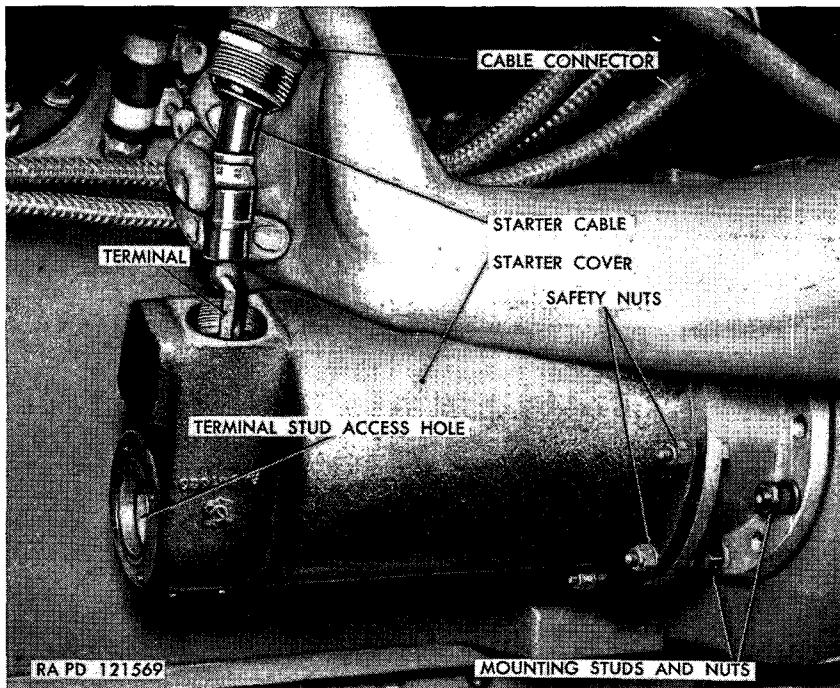
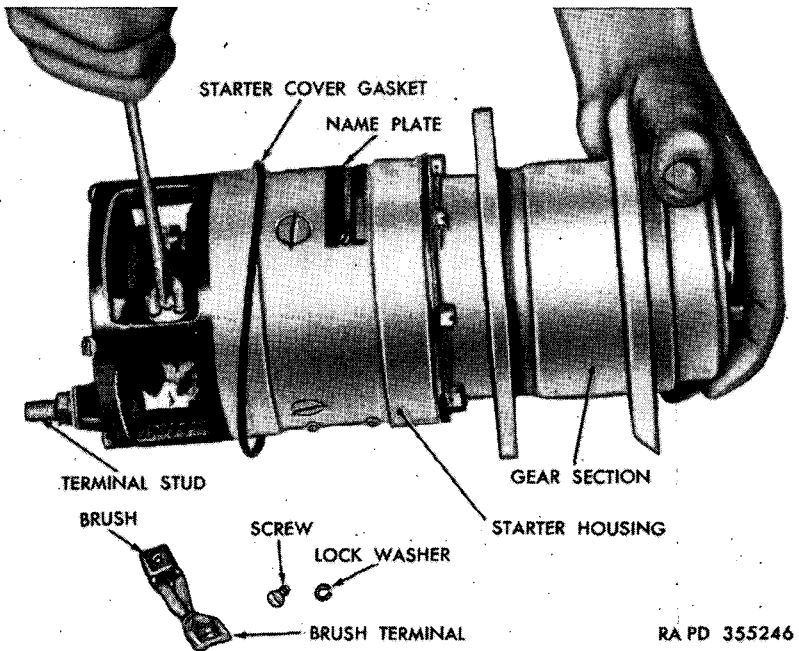

Figure 176. Removing starter cable.
Figure 178. Replacing Eclipse-Pioneer starter brushes.
b. STARTER. The 24-volt, waterproof starter is mounted on the left side of the engine near the accessory end. The engine may be equipped either with an Eclipse-Pioneer starter (fig. 174) or a Jack and Heintz starter (fig. 175). These starters are essentially the same, chief differences being in the method of mounting. Each starter consists of a motor section and a gear section. The motor section comprises a commutator, field coil, and an armature-and-pinion assembly. It is a series-parallel wound, four-pole unit with four brushes. The gear section comprises reduction gears, clutch, screw shaft, and starter jaw. It is bolted to the drive end of the motor. The terminal stud extends into the back head (commutator end) and is accessible through a watertight access hole cover (figs. 176 and 177).
access hole cover place and remove plate. Remove cotter pin and connector nut within starter housing. Pull terminal off terminal stud (fig. 178). Remove external cable connector nut and pull out starter cable and terminal (fig. 176). Remove starter vent line (fig. 174). Remove six jam nuts, nuts, and plain washers from mounting studs (fig. 176) and remove starter.
- (1) *Remove brushes*. On Eclipse-Pioneer, remove eight safety nuts and plain washers holding starter cover to gear section flange (fig. 176) and remove starter cover. On Jack and Heintz, remove vent line connector, and three cover screws securing starter cover to flange (fig. 175), and starter cover.
Remove brush terminal screw and lock washer (fig. 178), and pull brush out of brush holder.